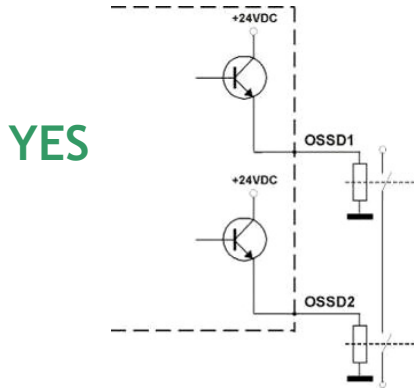

Fig. 19
- The OSSD1 and OSSD2 safety contacts cannot be connected in series or in parallel, but can be used separately (Fig.19), conforming to the plant's safety requirements.